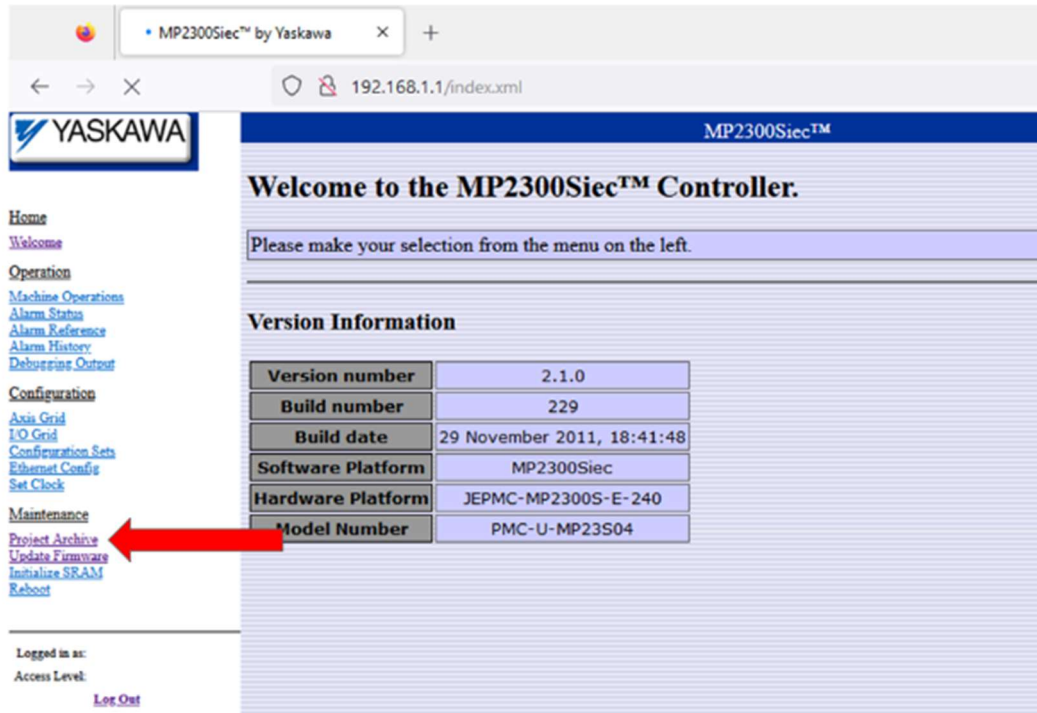
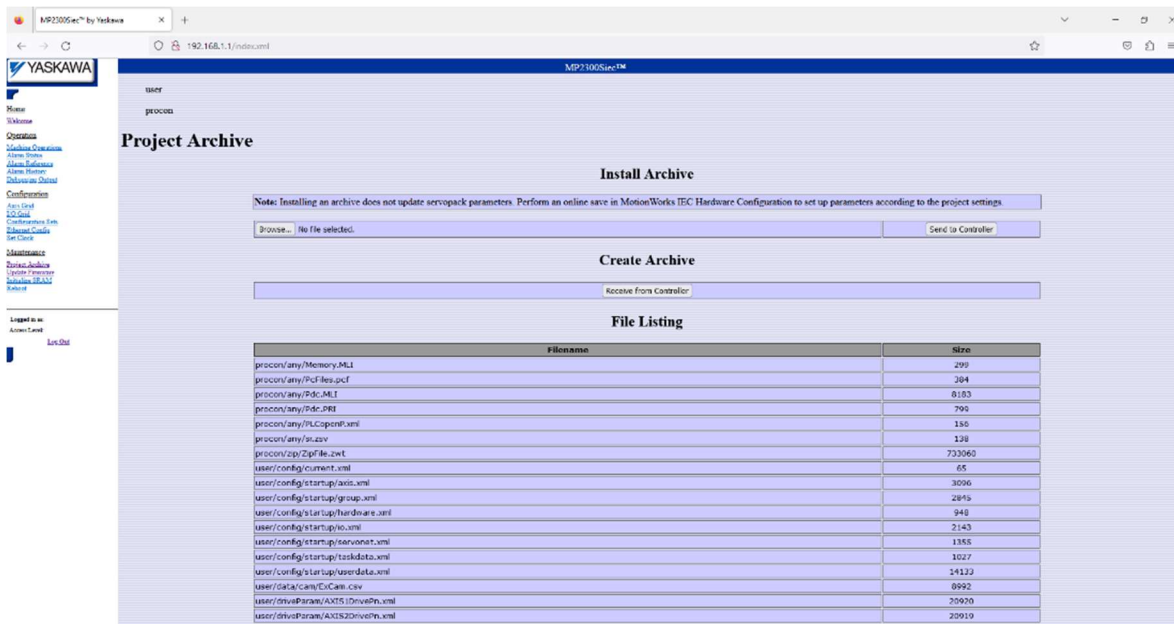

Figure 15: Logged in Home Page with Arrow to Project Archive
Figure 16: Logged in Home Page with Arrow to Project Archive
- Once logged in you can make your way to Project Archive as shown in Figure 15 and the window should look like Figure 16.